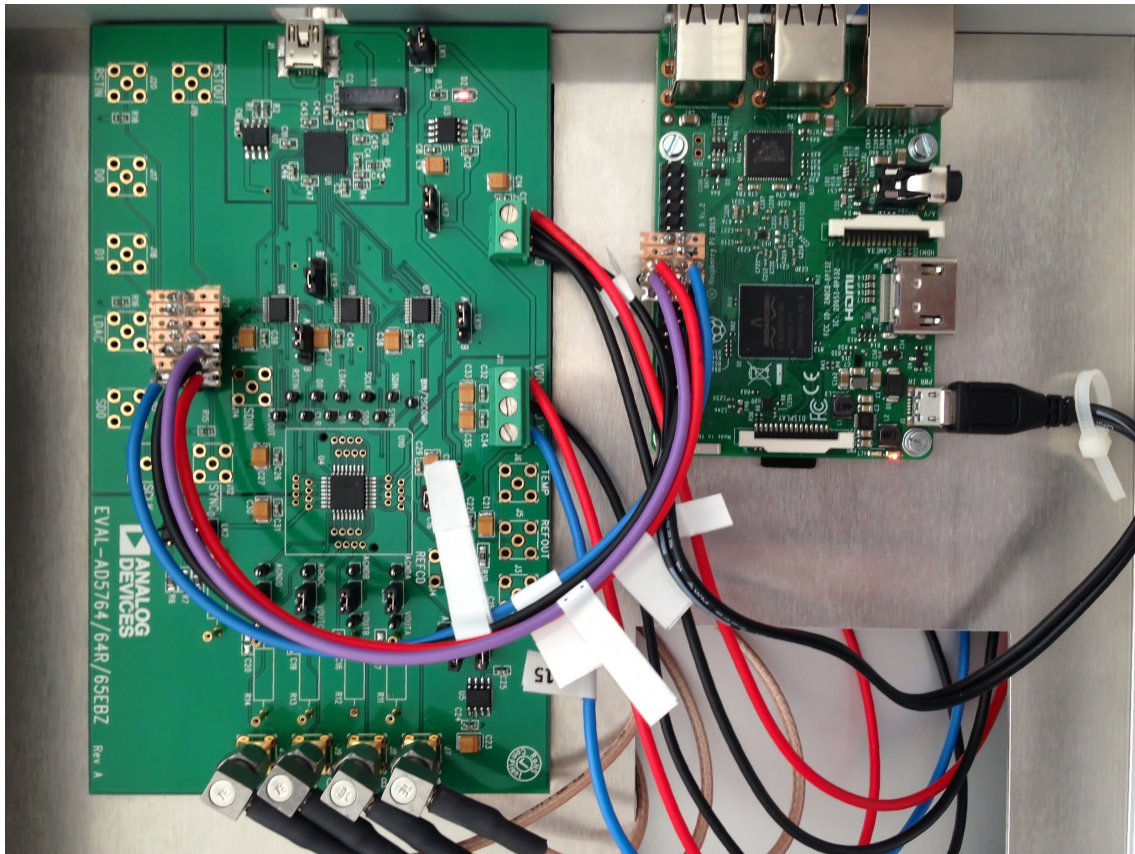

Figure 1: *Image of the wire connections between the Pi and Evaluation board.*
2.1 Raspberry Pi 3 Connection to EVAL-AD5764 The Raspberry Pi 3 needs a 5V input via its micro USB input port. This is done by using a micro USB cable that is stripped on the other end such that the ground and 5V wire can be separated and connected to the DGND and +5V pin respectively (figure 1 and 2), where a second set of wires will eventually be connected coming from an external 5V source.